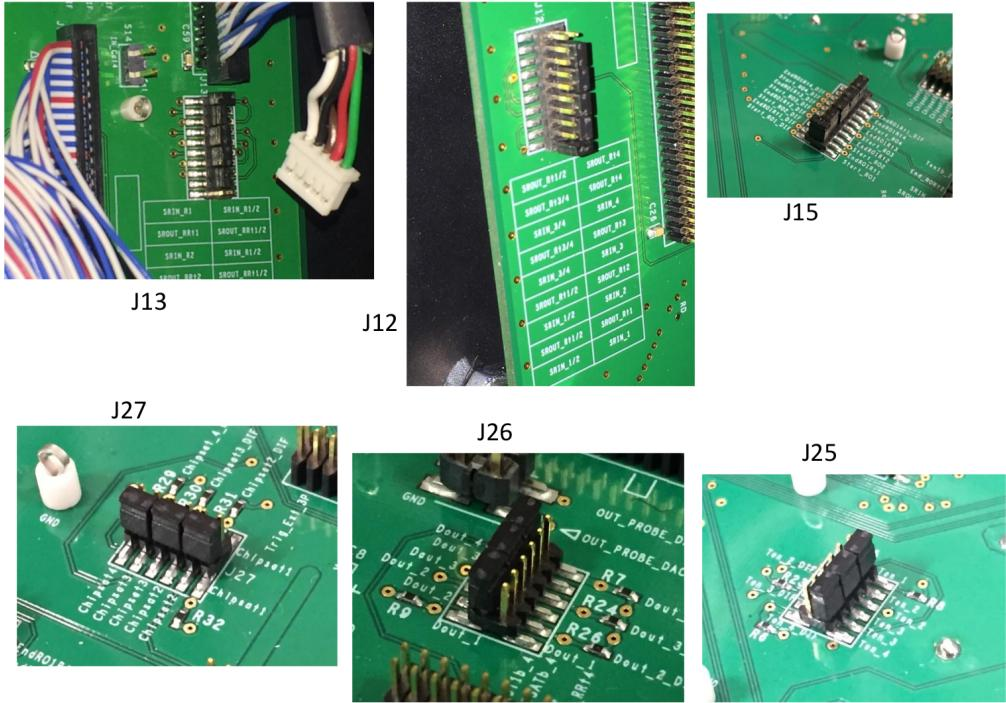

Figure 1.16: Interface jumpers setup for 4 (all) ASU chains
1. First solder the CDCLVC1104 chip on the base and glue it on the board (any empty space on the interface is good) as shown in Figure 1.16. You can use a different support (the white piece of plastic) and base (the small PCB with 10 holes on each side) if you want.